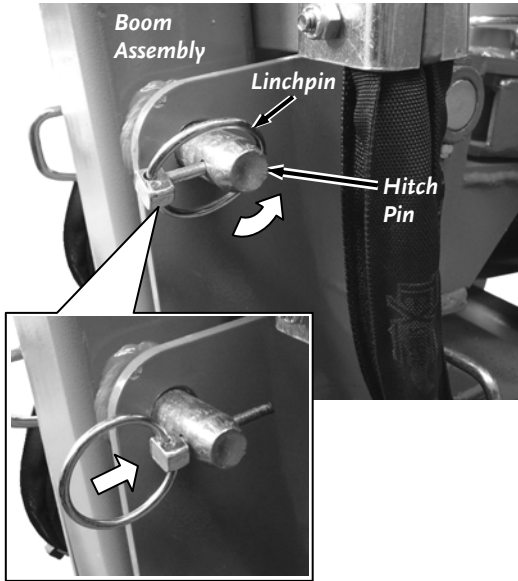

Figure 25
10. Insert the Lynch Pins into the Hitch Pins and secure them by snapping the Lynch Pin Ring over the Hitch Pin (**Figure 25**).